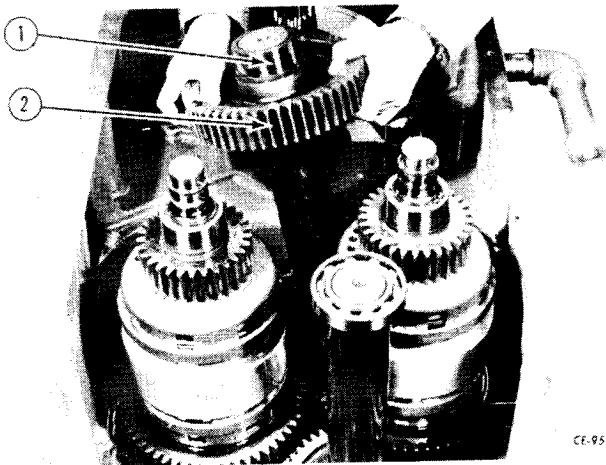

Figure 4-63
Install lower counter shaft (1, Fig. 4-63) by turning the shaft slightly to align teeth on gears and cocking low speed transfer gear (2) toward bottom of housing.